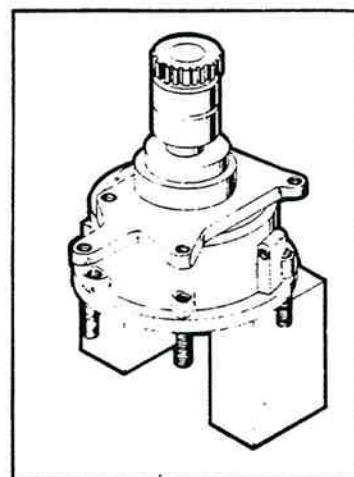

Figure 7-22. Shaft Assembly.
- Using a soft hammer, install the Woodruff key into the shaft. Figure 7-22 shows the shaft complete with retaining ring, bearings and Woodruff key installed.